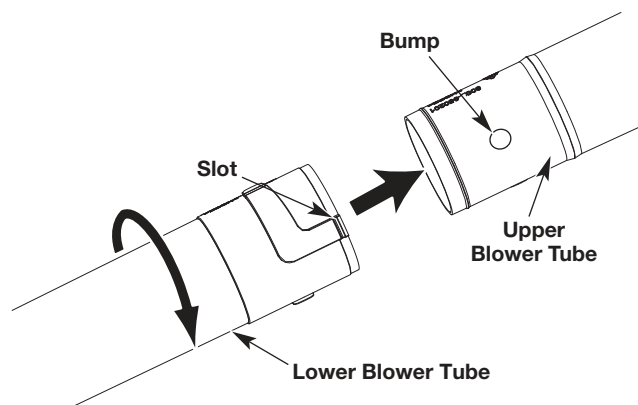

Fig. 2
1. Align the slots on the lower blower tube with the bumps on the lower end of the upper blower tube (Fig. 2).
2. Install the lower blower tube onto the upper blower tube (Fig. 2).
3. While holding the upper blower tube, twist the lower blower tube clockwise until it locks into place (Fig. 2).